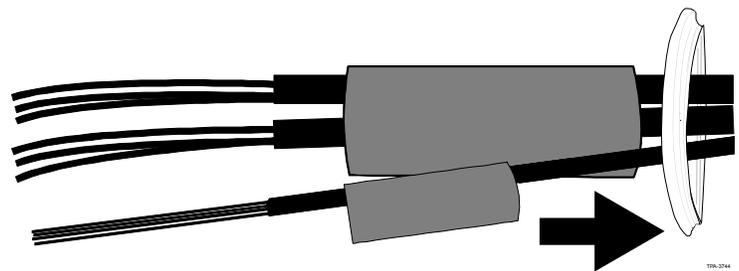

Figure 4
**Step 1:** Install the sealing ring onto the cables in the orientation shown in Figure 4. Slide it out of the way until it is required to seal the closure in Section 11.